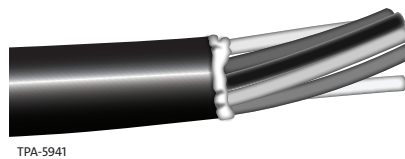

Figure 19
Step 9: Figure 19 shows the open cable with color-coded subunits.